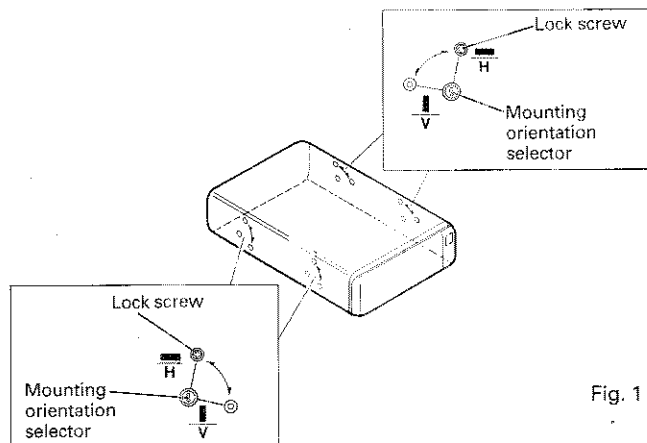

Fig. 1
- The player is set for horizontal use. Check that the lock screws that hold the shock absorption springs in the correct position are in the holes for H (horizontal) use, as shown in Fig. 1.